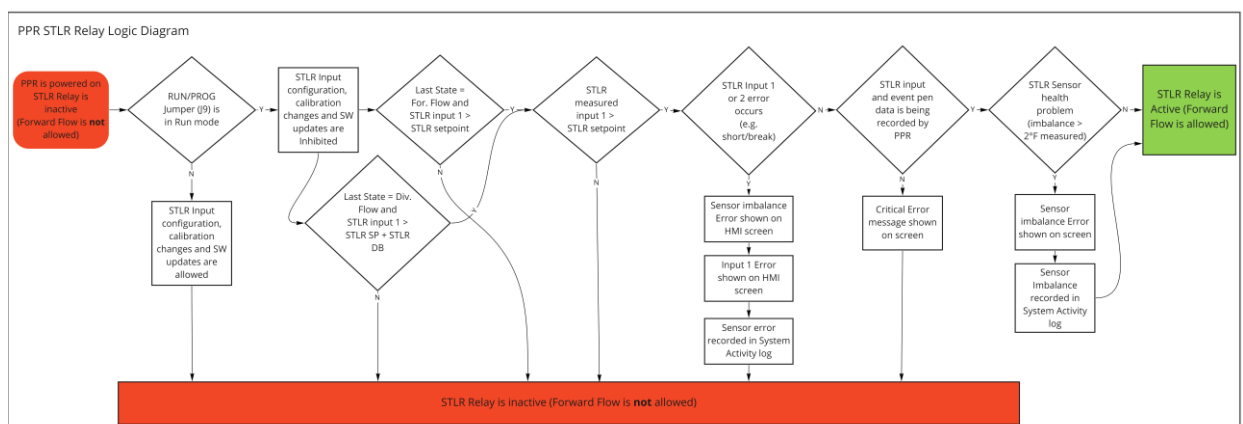

Figure 9: PPR STLR Relay Logic Diagram
- STLR Relay Output can be active if other conditions are met, See Figure 9
- STLR Relay Output is inactive See Figure 9
The STLR Relay functions as a real time controller output which activates the STLR Relay when STLR conditions are met. The primary condition for the STLR relay to become active is STLR Measured Input > STLR SP. Additional conditions to activate the STLR Relay are shown in Figure 9 below.
The STLR Relay is designed to fail safe under various PPR or input error conditions as shown in Figure 9. Proper system wiring practices covered in Section 3.7 of this manual are required to ensure fail safe operation.